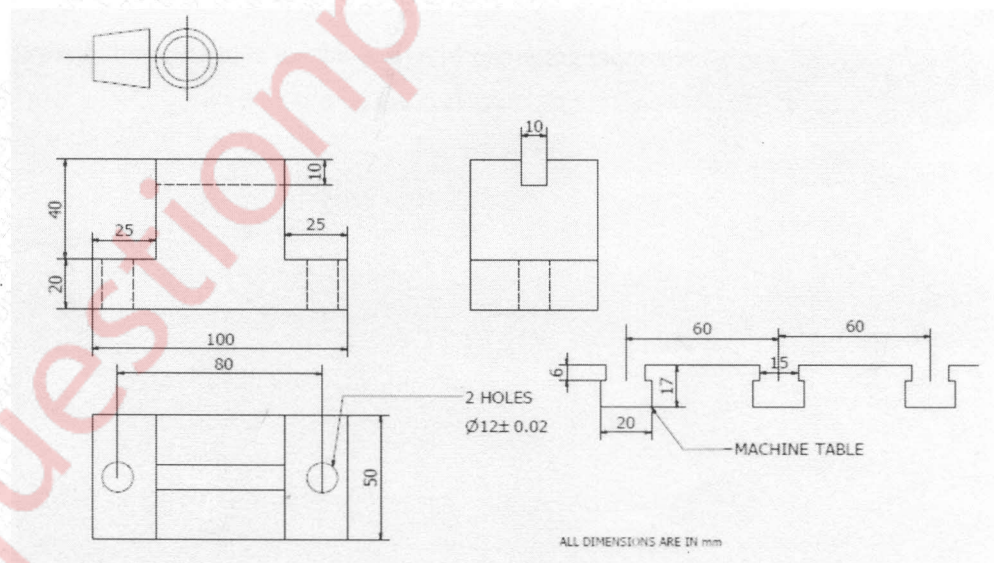

Figure-1
- Q3 Design and draw a milling fixture for slot milling the 10mm slot in the base shown in the figure .this is the last machining operation to be done on the base. Details of the milling table are shown in the figure-1 20